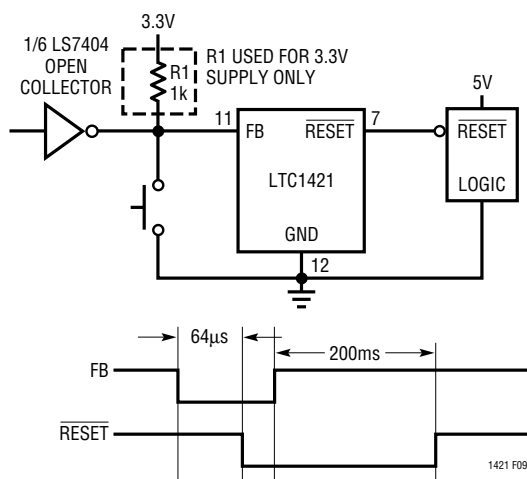

Figure 9. Generating a Soft Reset
A soft reset that doesn't cycle the supply voltage can be generated externally using Pin 11 (FB) as shown in Figure 9. For a 5V supply the FB pin is left floating to set the internal supply monitor trip voltage to 4.65V. However, if the FB pin is pulled to ground for more than 64µs via a push button or open-collector logic gate, the internal trip point will go to 5.88V and the  $\overline{\text{RESET}}$  pin will pull low.  $\overline{\text{RESET}}$  will remain low for 200ms after the FB pin is released. The  $\overline{\text{RESET}}$  signal will also be pulled low when the voltage at the  $V_{OUTLO}$  pin dips below 4.65V for more than 64µs. When using a 3.3V supply, a 1k resistor must be connected from the FB pin to  $V_{CCLO}$  to set the internal trip point to 2.90V.